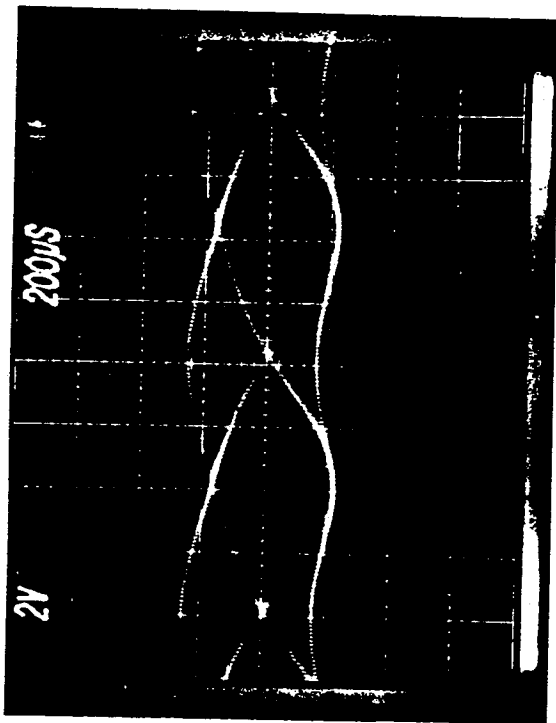

Figure 5-5
1. Check "D/A"; it may be difficult to synchronize the scope on this waveform, but it should look approximately as shown in Figure 5-5.